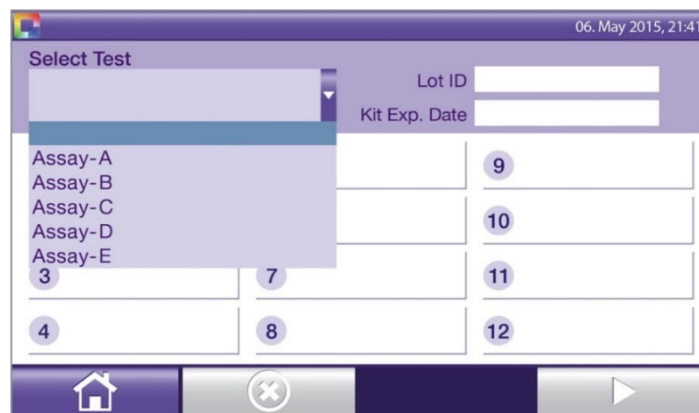

Figure 37
- Type the **Kit Exp. Date** using MM/DD/YYYY date format (**Figure 37**). For example, if the date is June 23, 2019, type "06/23/2019." Touch the **Enter** key  to confirm the entries.